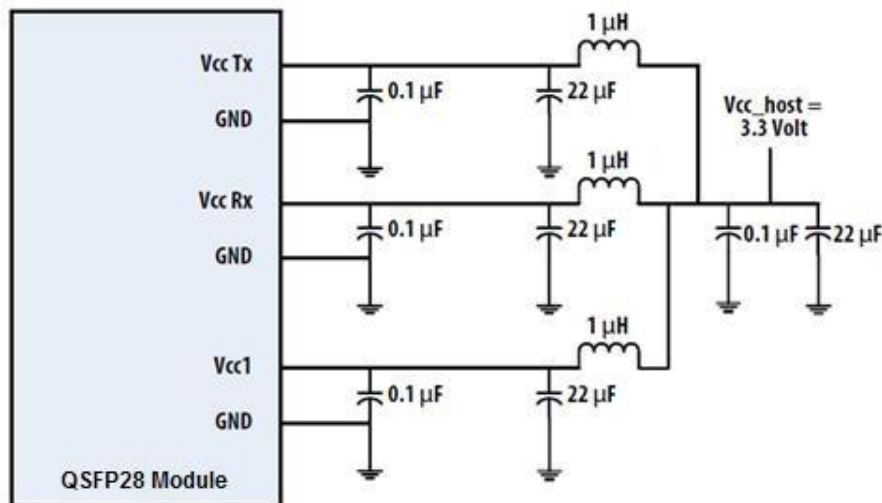

Figure 3. Recommended Power Supply Filter
2. VccRx, Vcc1 and VccTx are the receiving and transmission power suppliers and shall be applied concurrently. Recommended host board power supply filtering is shown in Figure 3 below.